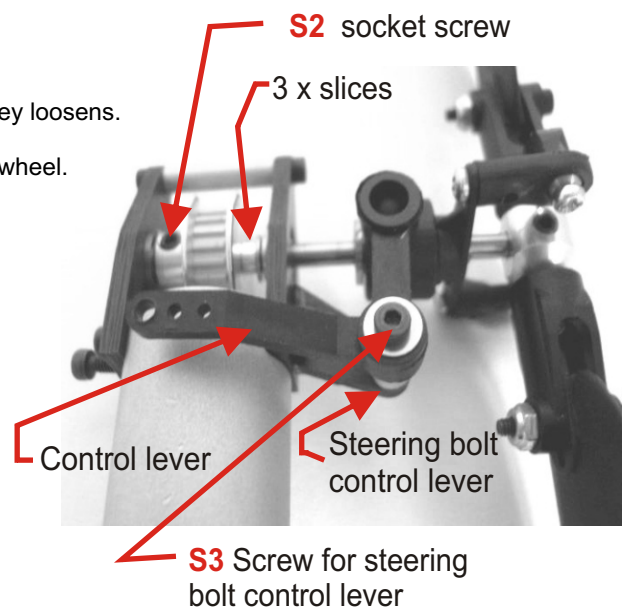

Fig. 3
8. Insert the axle from the right side into the 1st bearing (see Figure 3).
13. Put the control lever onto the lead and screw it with the enclosed M 2 mm x 4 mm screw with slice (see figure 3).